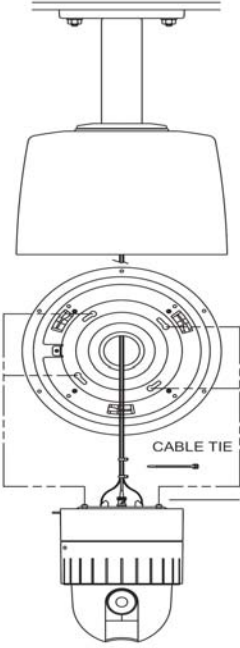

FIG.23
- D-6.** Tie the wire using the cable ties. (FIG. 23)